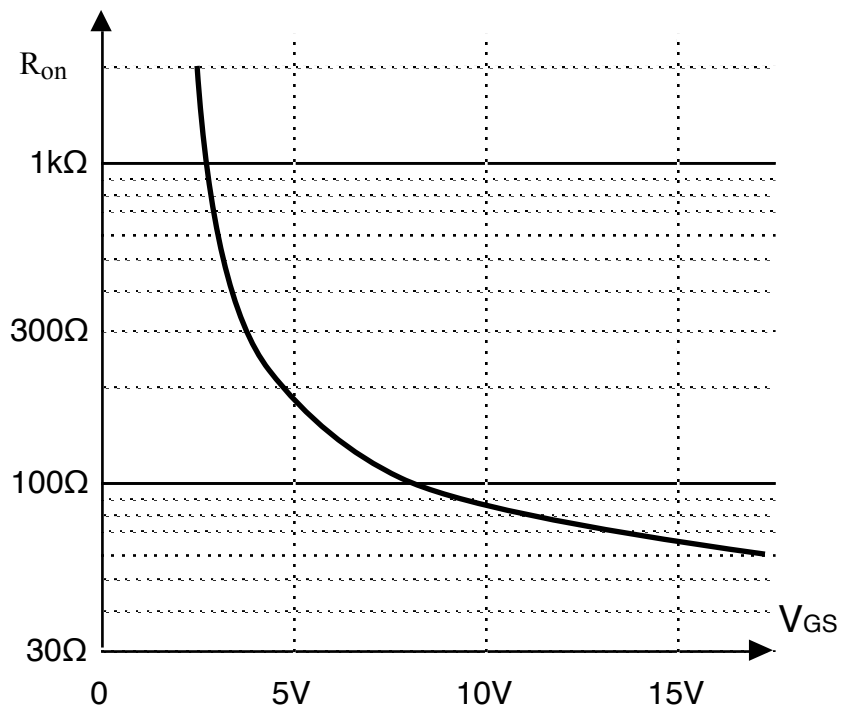

Figure 6.7
Resistor R1 is replaced by the series combination of $R_{1A} = 300\Omega$ and a MOSFET from the MC14007 array. The MOSFET is being used in the triode region as a voltage controlled resistor. A typical plot of channel resistance R_{on} vs. gate control voltage V_{GS} is shown in Figure 6.7. Note that as gate voltage increases, R_{on} decreases, which increases the noninverting gain of the U1 op-amp circuit. (You may need to use a smaller value of R_{1A} if your MOSFET has a different R_{on} vs. V_{GS} characteristic.)
- 3.2 From the R_{on} vs. V_{GS} curve in Figure 6.7, approximately what gate drive voltage do you expect will produce this R_{on} ? (Your MOSFET may have a different curve).